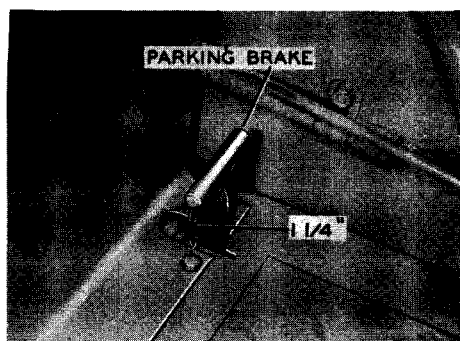

Figure 104
**IMPORTANT:** After adjusting the parking brake, check to make sure there is a minimum of  $1\frac{1}{4}$  inch clearance between the bottom of the Parking Brake Handle and the operator platform, Figure 104. If there is less than  $1\frac{1}{4}$  inch clearance, lengthen the brake linkage by means of the yoke until the clearance is obtained. Failure to allow for the  $1\frac{1}{4}$  inch Brake Handle clearance will cause the brake to be adjusted too tight, which can result in damage to the parking brake.